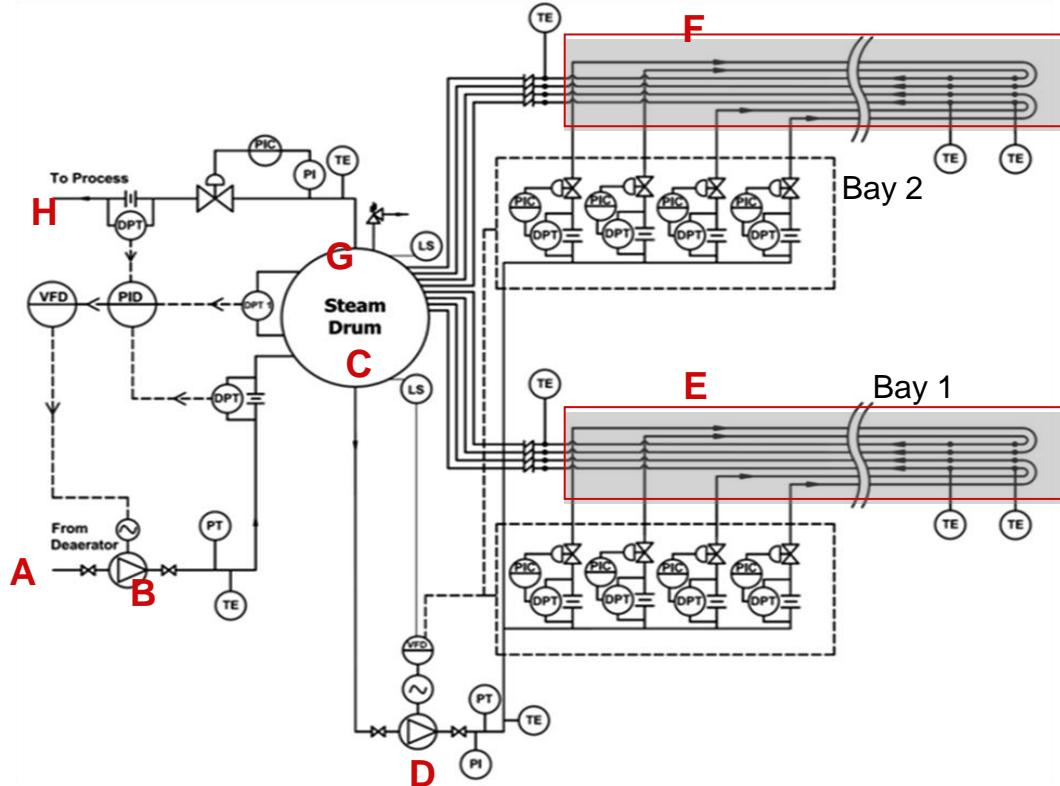

Figure 7: P&I Diagram depicting the Process Flow of a LFR system
Figure 7 shows the process flow of the system. The water from the deaerator (A) is pumped into the steam drum (C) by means of a boiler feed pump (B). The recirculation pump (D) pumps the saturated or sub-cooled water from the steam drum through the down comer into the bay (E&F) (absorber housed inside the Linear Cavity Receiver). The saturated steam water mixture generated by the absorber tubes of desired dryness fraction enters the steam drum (G). The steam separated by the steam drum is taken out through the outlet provided at the top of the steam drum (G) and subsequently delivered to the process (H) through the pressure control valve.